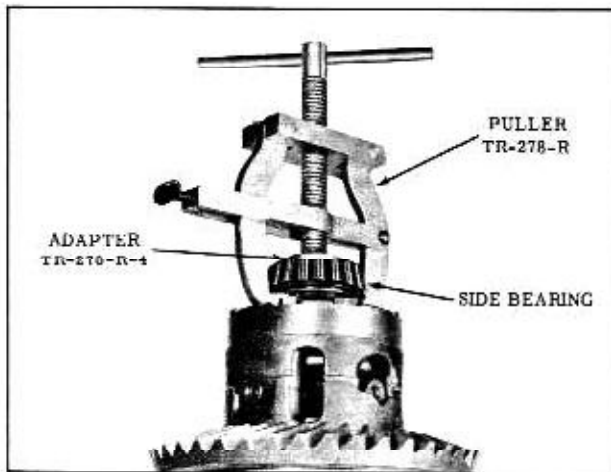

Fig. 6-40 Removing Side Bearing
1. If side bearings are to be removed, use Differential Side Bearing Remover TR-278-R and Adapter TR-278-R-4 as shown in Fig. 6-40. Be sure ends of puller are placed in recess in differential case or case cover.